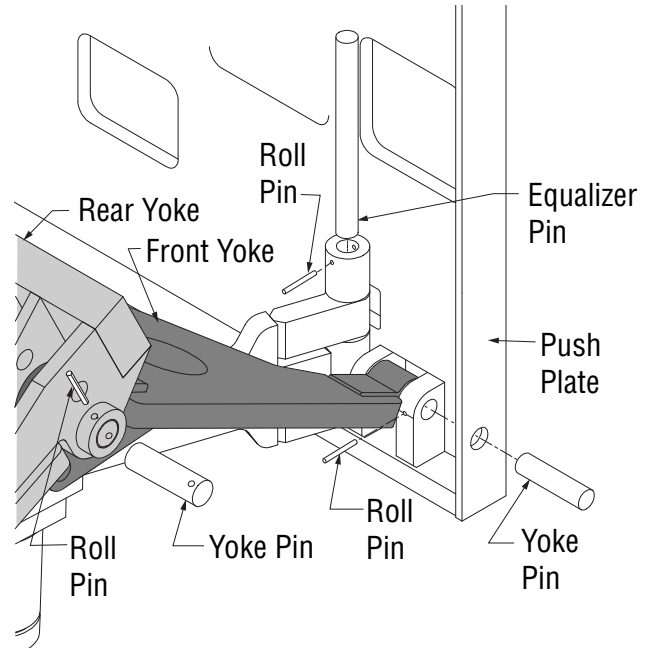

Figure 17, Pin installation
3. Each pivot pin is retained with a roll pin. Carefully remove pins without passing the hole through the bushing. This is accomplished by removing and installing the pin as shown in Figure 17.